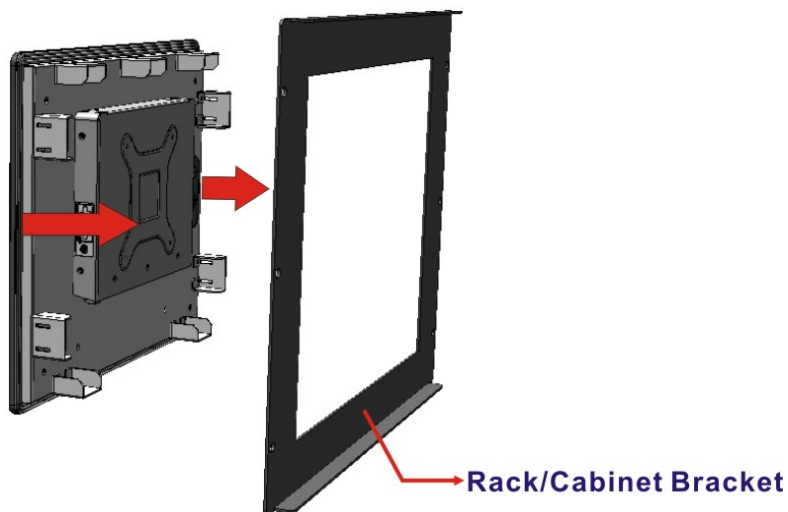

Figure 3-33: Slide into the Rack/Cabinet Bracket
Step 2: Slide the rear of the DM-F series LCD monitor through the rack/cabinet bracket until the aluminum frame is flush against the front of the bracket (**Figure 3-33**).